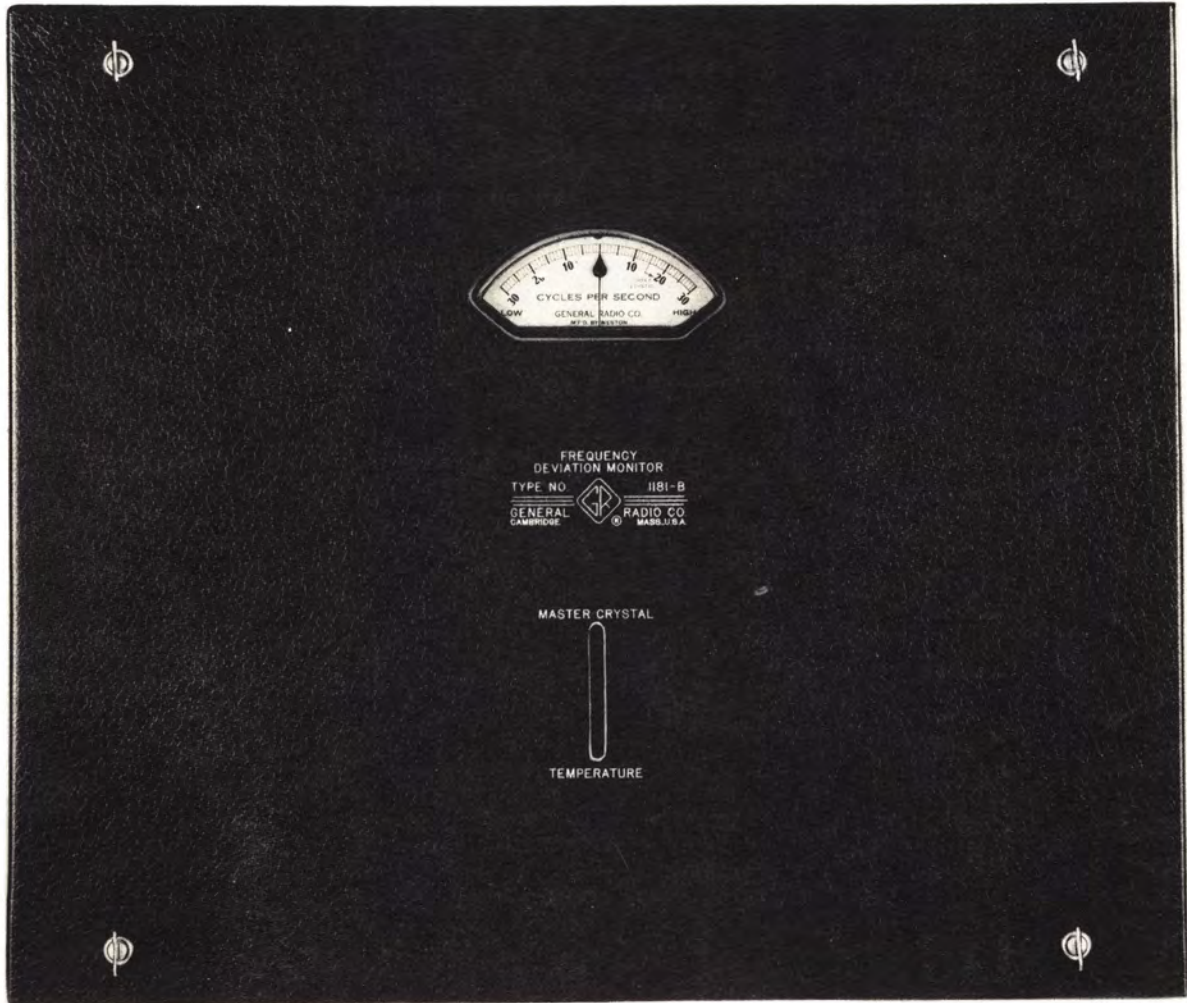

Figure 1. Type 1181-B Frequency Deviation Monitor.
1.1 PURPOSE. The Type 1181-B Frequency Deviation Monitor (Figure 1) indicates directly the magnitude and direction of the frequency deviation of an am broadcast transmitter to enable the station to comply with frequency tolerance specifications of the Federal Communications Commission and of similar commissions in other countries. The monitor can be used either at the transmitter site or at a location remote from the transmitter in accordance with FCC rules permitting unattended operation of transmitters. Because of the low input signal level required (about 50 millivolts), remote operation is possible at distances up to several miles from the transmitter with only a tuned antenna. Beyond this distance, an rf power amplifier, of the type commonly used with remote control systems, is required.